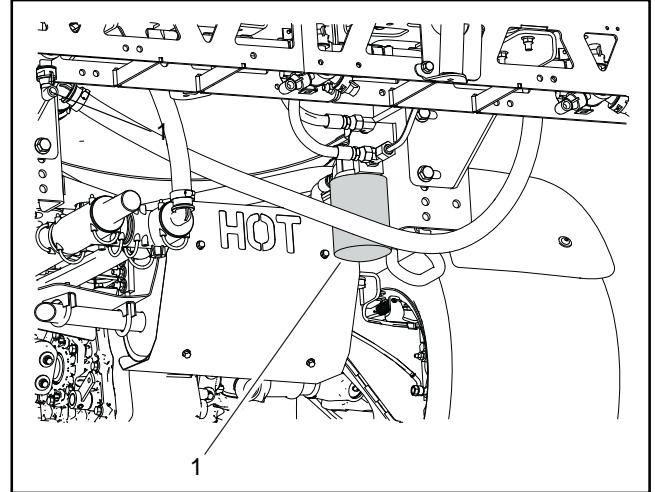

Figure 19
2. Clean area around hydraulic filter mounting area (Fig. 19). Remove filter and drain filter into a suitable container. Discard filter.